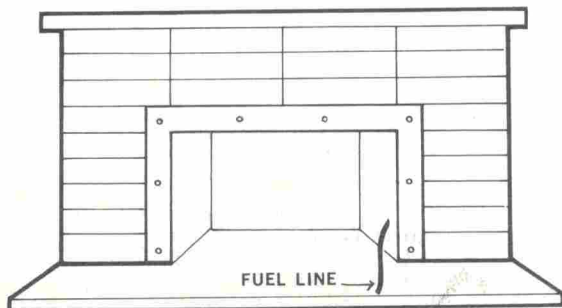
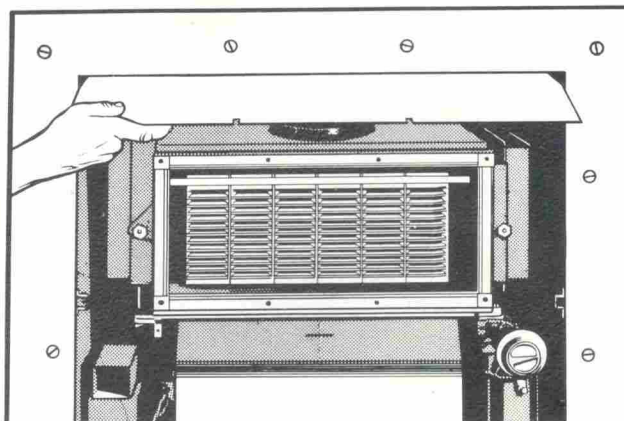

Fig. 16
Fig. 19
4. Install the empty outside case (F, Figure 2, Page 1) into the fireplace, making absolutely certain that the case is **level all ways**. Should the fireplace front not be plumb, this should be ignored, as it is essential that the outside case of the heater is perfectly level, to ensure the correct operation of the unit. Bring the fuel line in from the rear to the front right-hand side (see Figure 16, Page 10).
5. Fasten the outside case to the fireplace with screw-ins or small loxins (as shown in Figure 16 or Figure 19).
9. Replace top and side baffles (Figures 19 and 7), ensuring that the baffles are correctly located in the slots provided in the base of the heater.